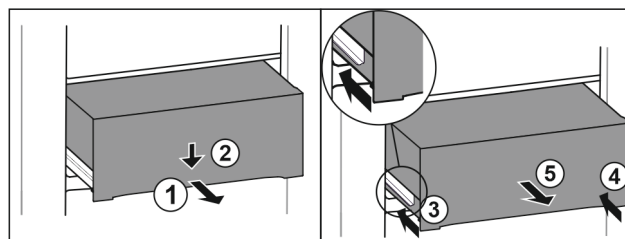

Fig. 132
- Pull out the drawer halfway. Fig. 132 (1)
- Press down the drawer on the front. Fig. 132 (2)
- Push in the left rail approximately 2 cm (13/16 in). Fig. 132 (3)
- Push in the right rail approximately 2 cm (13/16 in). Fig. 132 (4)
- Remove drawer to the front. Fig. 132 (5)